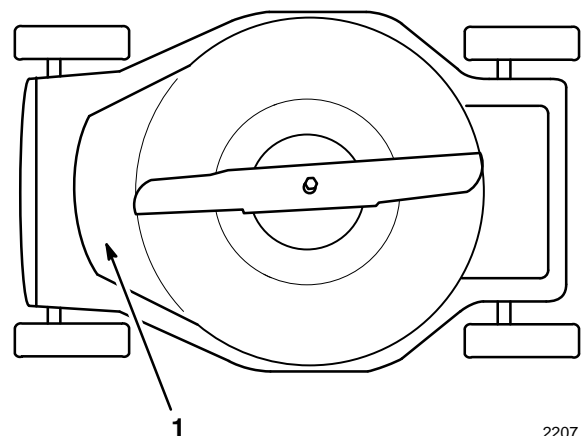

Figure 19
- Clean the underside of the mower housing. Be particularly careful to keep the front cavity clear of all debris (Fig. 19). Remove dirt and grass clippings with a hardwood scraper. Avoid burrs and sharp edges.